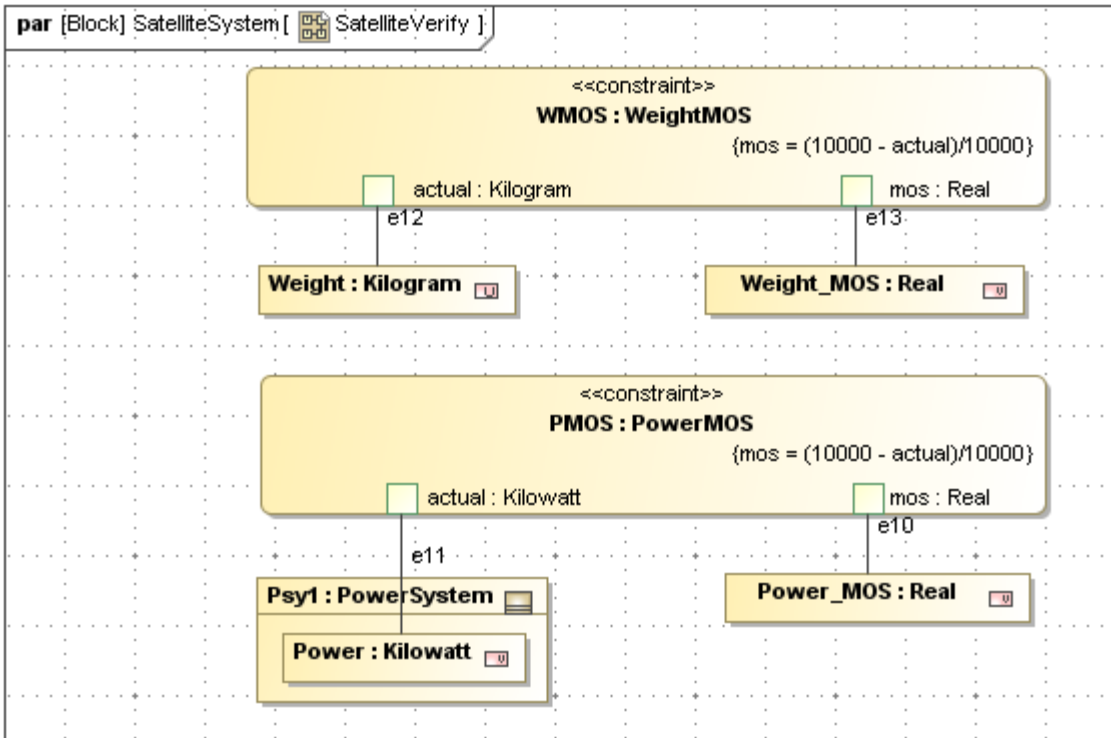

Figure 3.6 SysML Parametrics Diagram
- e. Drag the **WeightMOS** constraint block inside the diagram and give it the name **WMOS** as a constraint property of **SatelliteSystem**. Display the constraint parameters and arrange as shown in Figure 3.6.
- g. Add connectors from the Value or Part Property attributes to the Constraint Property parameters as shown in Figure 3.6.